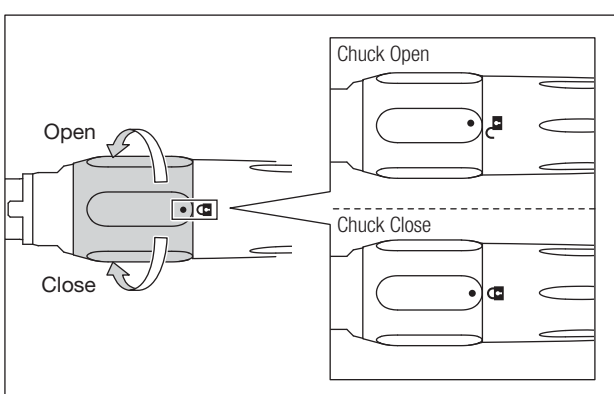

Fig.2
- 1) Turn the Bur Lock Ring in the direction of the "🔓" mark until it clicks. (Fig.2)